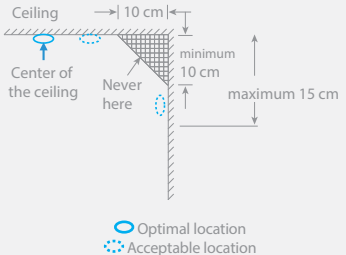

Figure 4
- Install the smoke detectors as close as possible to the center of the ceiling. If it is not possible, install the detector at the ceiling, minimum 10 cm from the wall, as shown in figure 4.
- If you cannot install the detector at the ceiling and wall-mount is authorized by the laws in your country, install the detectors 10 to 15 cm from the ceiling as shown in figure 4.
- In stagnant air areas. Stagnant air areas are often at the top of a peaked roof, or in the corners between ceilings and walls. Stagnant air areas may prevent smoke from reaching the detector. Refer to figures 4 and 5 for recommended mounting locations.